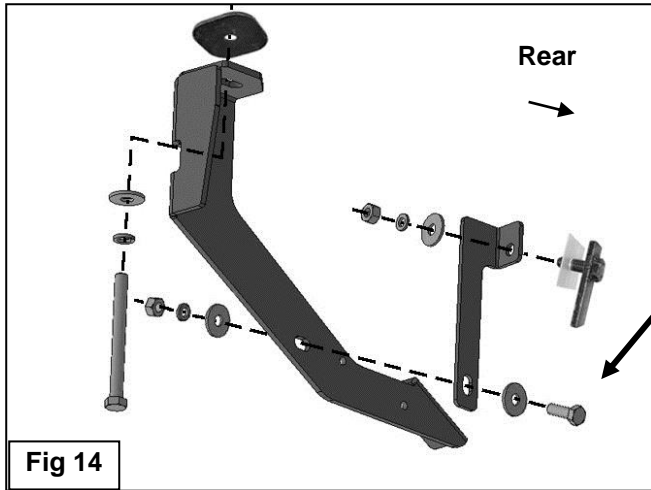

Fig 14
10. Repeat **Step 7** to attach the flat lower end of the Support Bracket to the front of the rear Mounting Bracket, **(Figure 14)**. Snug but do not tighten hardware at this time.